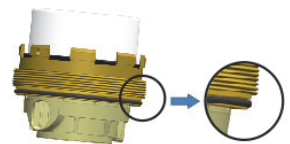

Fig. 2
- 2.9. Check whether the O-ring 70x2 [1] supplied with the measuring capsule is correctly seated. If it is not, the O-ring [1] must be inserted in the correct groove on the meter insert (Fig. 2).